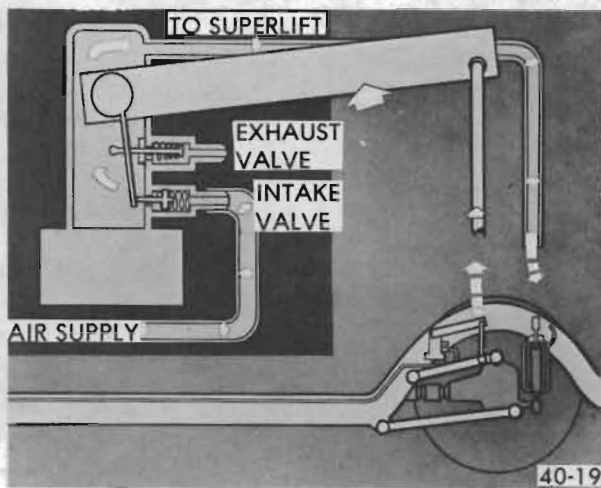

Figure 40-23 - Load Added to Car
d. The height control valve, which is mounted on the frame, senses rear car height through a link attached to the rear upper control arm on all cars except Estate Wagons. Link is attached to axle assembly on Estate Wagons. When load is added to the car, the overtravel lever is forced up causing an internal lever to open the intake valve. See Figure 40-23. When this valve is open, high pressure air is admitted to the Superlift shocks. As the car raises to level (depending upon position of load), the intake valve shuts off.